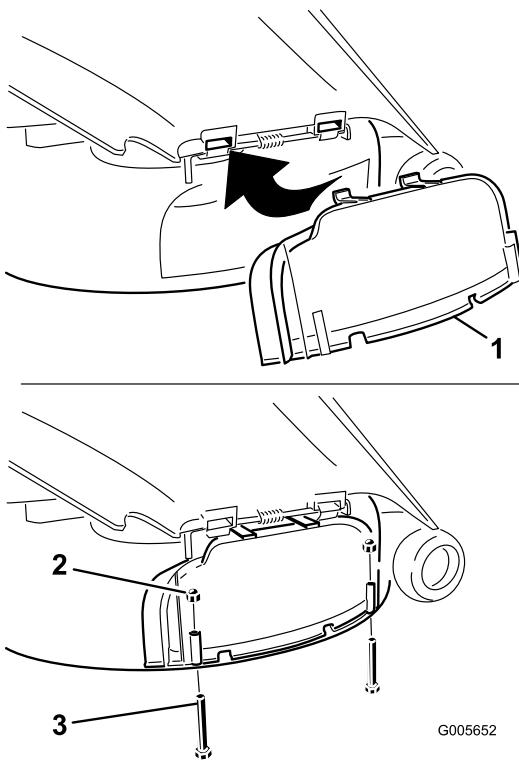

Figure 20
3. Lift the grass deflector and slide the tabs on top of the discharge cover under the grass deflector retaining rod. Rotate the discharge cover down over the opening, and onto the lower lip of the mower (Figure 20).
- 4. Secure the discharge cover to the lower lip of the mower with two bolts (1/4 x 2-1/2 inches) and two cap nuts (1/4 inch) as shown in Figure 20.